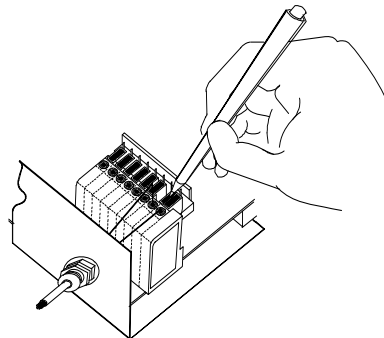

Figure 14 - System Cable Connections
- Using a device such as a screwdriver, push down on the lever directly next to the clamp (see Figure 14).